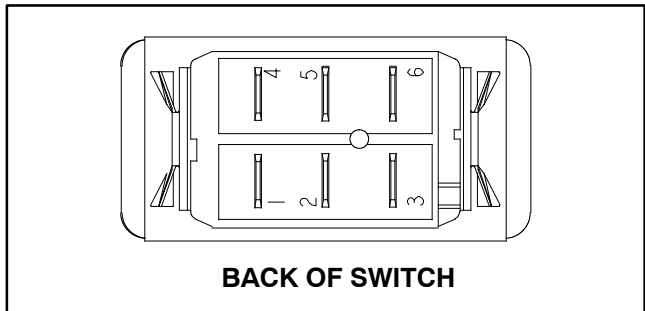

Figure 6
4. With the use of a multimeter (ohms setting), the switch functions may be tested to determine whether continuity exists between the various terminals for each switch position. The switch terminals are marked as shown in Figure 6. The circuitry of the on/off switch is shown in the chart below. Verify continuity between switch terminals.